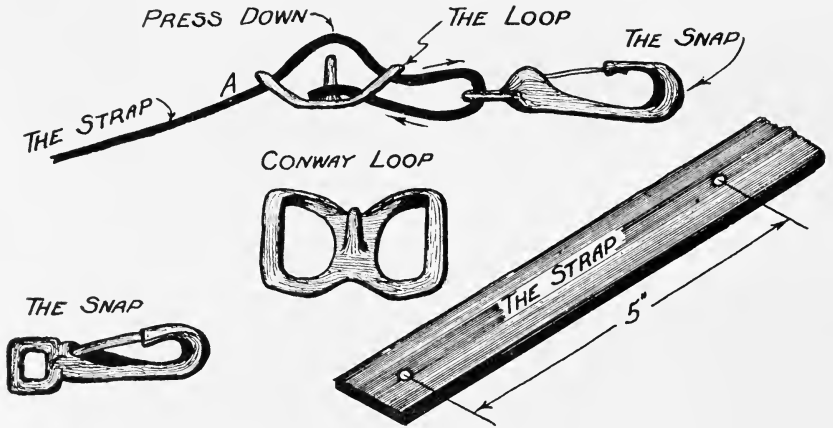

Fig. 16. Attaching a Buckle with a Conway Loop.
1. Punch a hole at  $\frac{1}{2}$ " from the end of the strap and another hole about 5" from the hole at the end. Fig. 16.